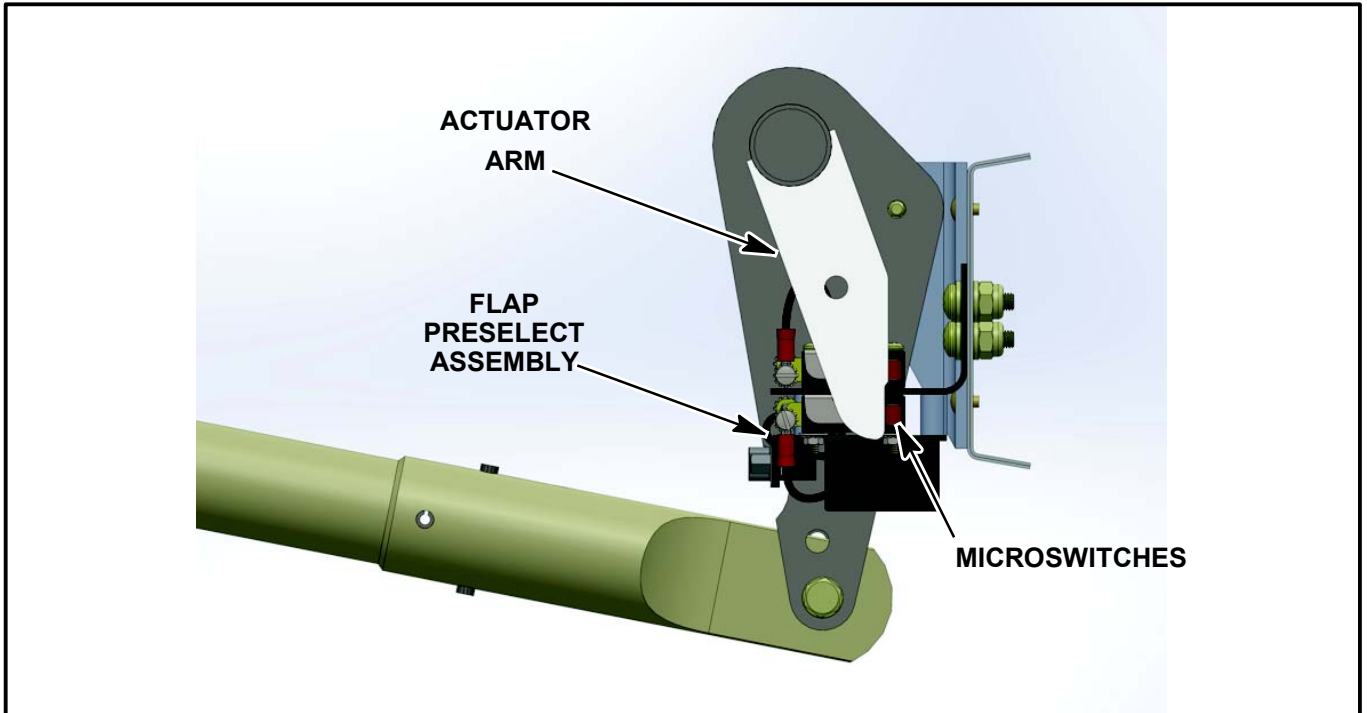

Figure SIM20-142-20 - MICROSWITCH ADJUSTMENT
- 1.21. Loosen hardware attaching microswitch 1 and 2 to the flap preselect board. Refer to Figure SIM20-142-20.